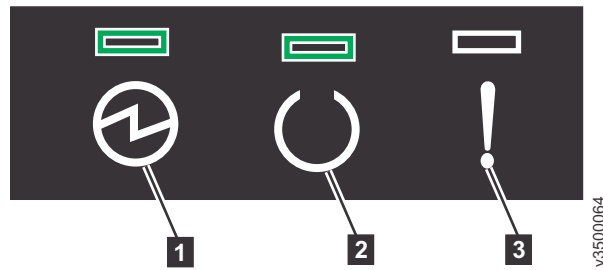

Figure 35. Node canister LEDs
5. From the rear of the control enclosure, check the LEDs on each node canister (see Figure 35).